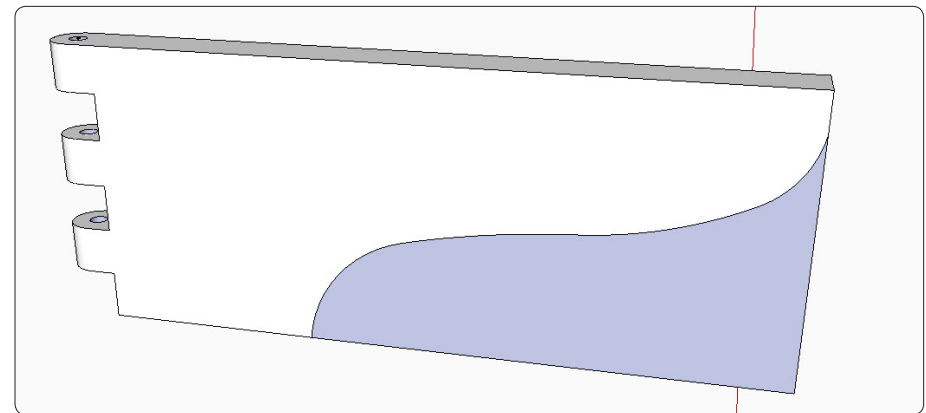
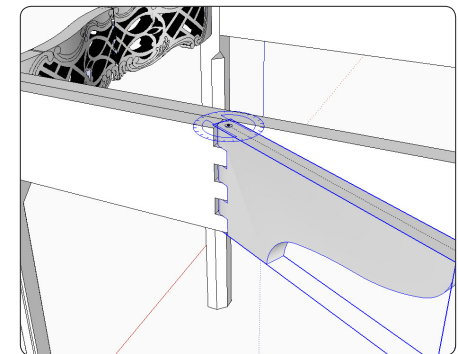

Figure 53. Create the ogee-shaped cutout on the movable half of the hinge.
Figure 54. The completed hinges, in position.
Step 7 Use the Arc and Push/Pull Tools to create the cutout shape on the movable hinge leaf, as shown in Figure 53. Connect the two halves of the hinge and place it into the table assembly. Copy and use the Rotate Tool to place the duplicate hinge on the other side of the table. Use the Rotate Tool to swing the movable portion of the hinge part way out, as shown in Figure 54.